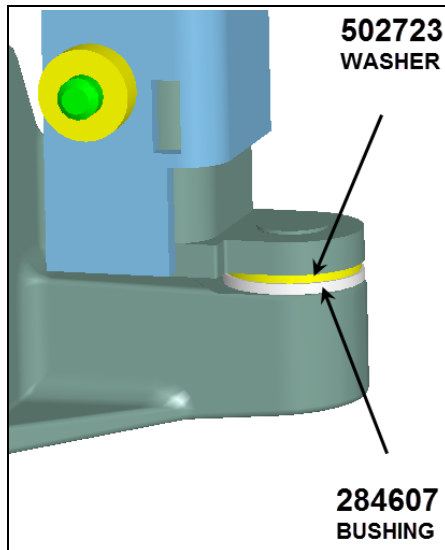

FIG.13 WASHER & BUSHING POSITION
- New plastic bushing **284607** and washer **502723** are installed at the pivot point (Fig.13).